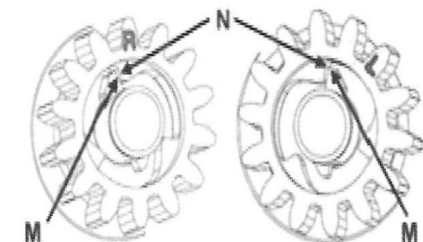

figure 19. Rear wheel pinions and pawls
- ★ Lightly grease the pawl (J), the slot in the shaft, bushes (G) and the inside of the pinion gear (H) with light general purpose grease then refit the components onto the drive shaft, retaining them with the circlip (E).
Note: The pinion gear (H) is marked "R" on one side and "L" on the other. The pinion gear (H) is to be fitted with the "R" displayed when fitted on the right hand drive side of the mower and with the "L" displayed when fitted on the left hand drive side. Refer to figure 19. The right and left side of the mower is indicated while standing in the operator position.
Note: The pawl must always be orientated so that the side with the large flat face (M) will come in contact with the flat faces inside the pinion gear (N) The orientation is important to ensure that the pawl will drive the pinion gear when the clutch is engaged). Refer to figure 19.